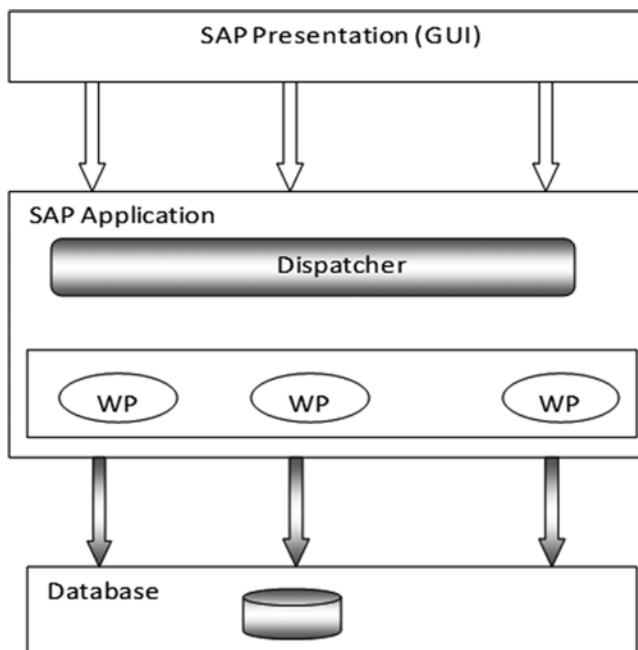

Figure 1-1. SAP System Architecture
- The Application layer, which takes care of the workload allocation process using Work processors (WP)
Figure 1-1 shows you the SAP System Architecture in a three-tier architecture, with a core database such as SAP's native HANA DB, application layer with multiple work processors (WP), which does the workload process, and a presentation layer, which refers to SAP GUI or a mobile interface.